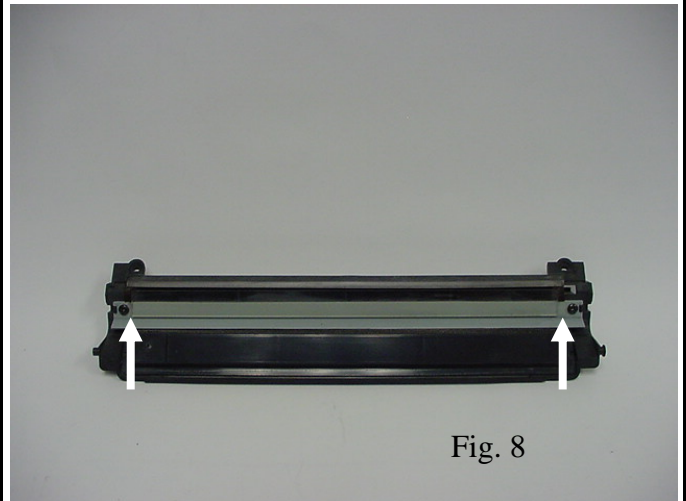

Fig. 8
8. Remove the two screws that secure the wiper blade to the waste bin (Fig. 8).